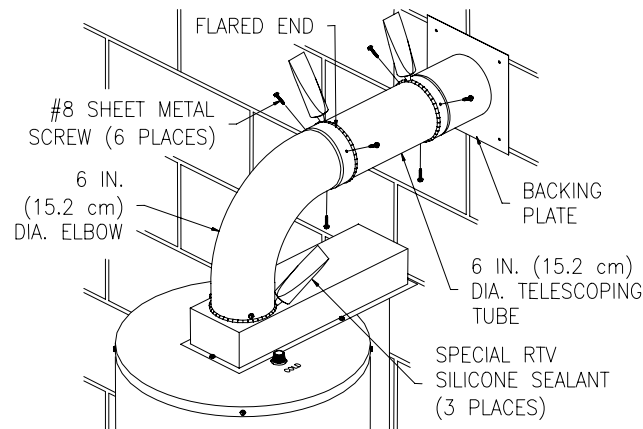

Figure 15.
11. From inside the building, slide the backing plate over the six (6) inch (15.2 cm) diameter telescopic tube until it is flush with the wall. Adjust the length of the six (6) inch (15.2 cm) diameter telescopic tube and insert the end into the flared end of the six (6) inch (15.2 cm) diameter elbow one (1) inch (2.5 cm) (or until seated). Drill three (3) 1/8 inch (3.2 mm) diameter holes, 120° apart, through the six (6) inch (15.2 cm) diameter elbow into the six (6) inch (15.2 cm) diameter telescopic tube and through the tubes where the small and large sections overlap. Fasten with three (3) #8 sheet metal screws (supplied). Using the supplied special RTV silicone sealant, apply a sufficient amount to seal all joints (See Figure 15).